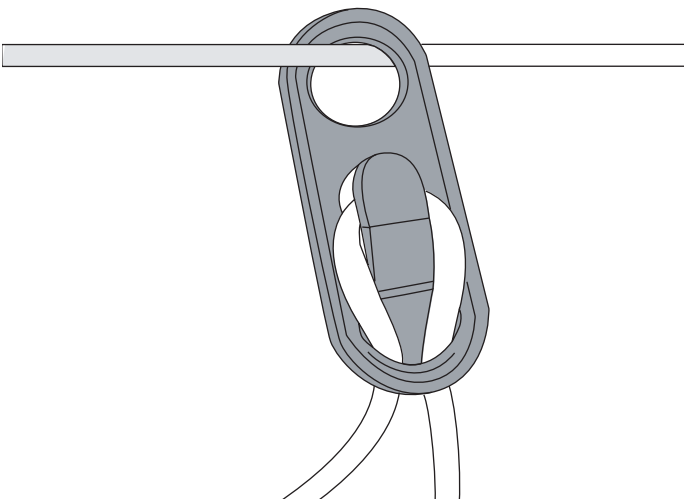

Fig. 4
3. Slide the loop over the retaining clip and pull down until the cord fits snugly (Fig. 4).